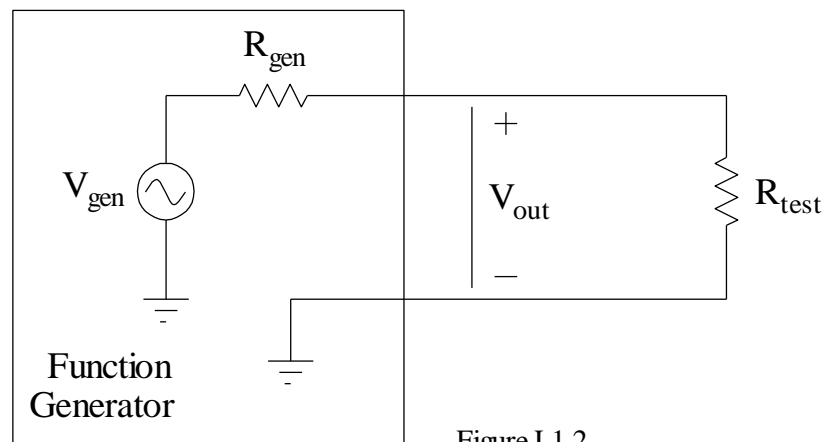

Figure L1.2
Measure the low frequency output impedance of the function generator. Do this by hooking the output of the generator to a test resistor R_{test} of value from 50Ω to 100Ω to ground, as shown in Fig. L1.2.
In this configuration, the voltage V_{out} indicated in Fig. L1.2 takes the form
- (a) Choose a test resistor R_{test} with value between 50Ω and 100Ω and hook up the circuit shown in Fig. L1.2. Set the function generator to output a sinusoidal waveform with a reasonable choice of amplitude (e.g., 1V) and a frequency of 10kHz or lower. Measure the value of V_{out} using your oscilloscope (with a properly compensated probe). Remember that the amplitude delivered by the function generator might be